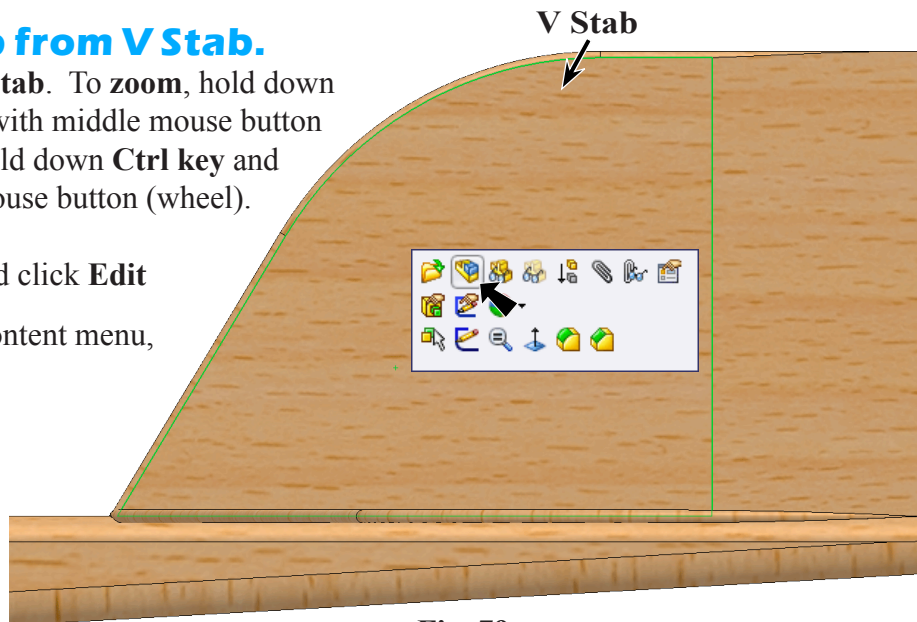

Fig. 79
Step 2. Click the **V Stab** and click **Edit Part**  on the Content menu, **Fig. 79**.